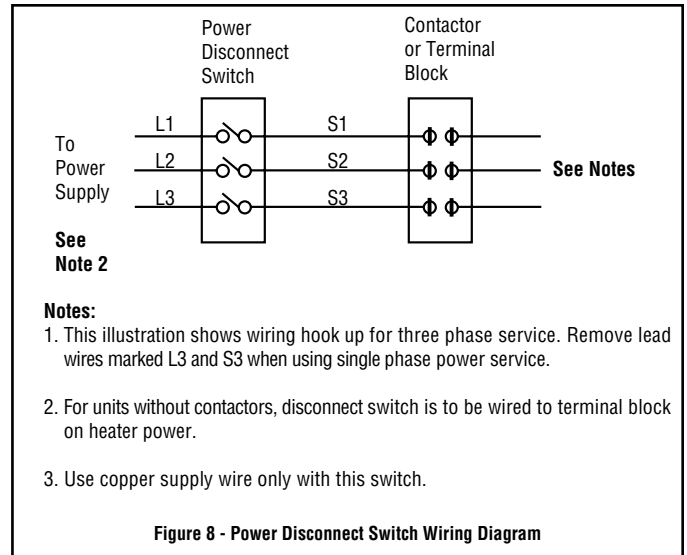

Figure 8 - Power Disconnect Switch Wiring Diagram
1. Use copper conductor supply wire only when connecting to the power line. (See Figure 8.)
Heaters can be equipped with an optional thermostat of the Bulb and Capillary type for automatic temperature control (Figure 8). The thermostat controls the heating elements and fan simultaneously to achieve set temperature.